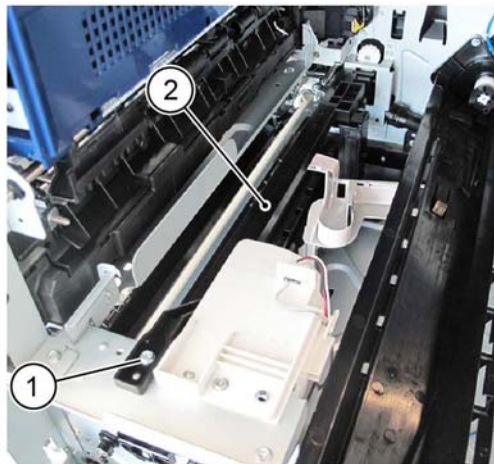

Figure 6 CRU upper guide removal
8. Remove the CRU upper guide assembly, Figure 6:
- a. Remove the screw (1).
- b. Remove the CRU upper guide assembly (2).